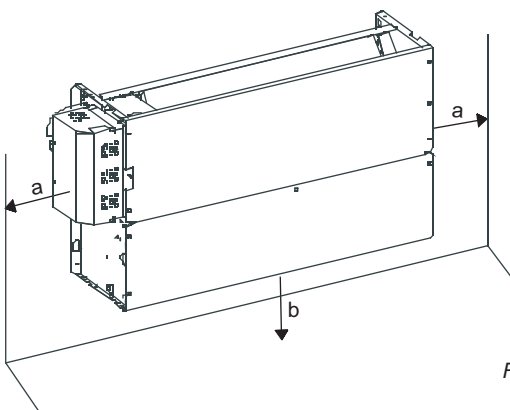

Fig.4-5
**4.1 The units may be mounted vertically ,provided that the correct clearances for positioning are maintained. (Refer to Fig. 4-1~Fig.4-5 )**